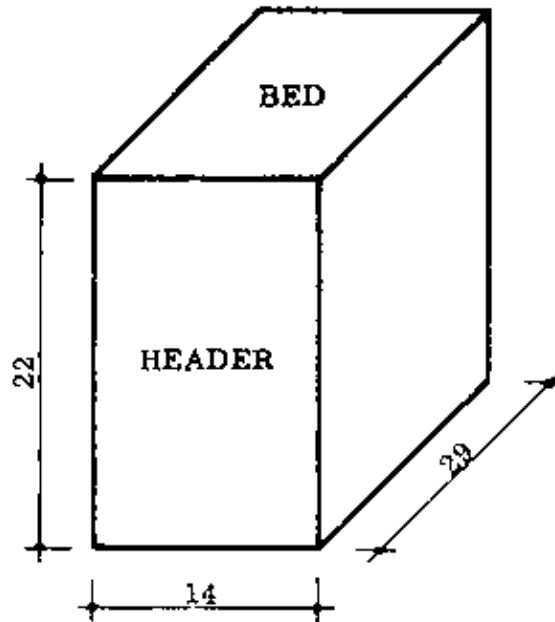

Fig. 2 LANDCRETE BLOCK
– LANDCRETE BLOCKS: These are blocks used for actual building (Fig. 2).